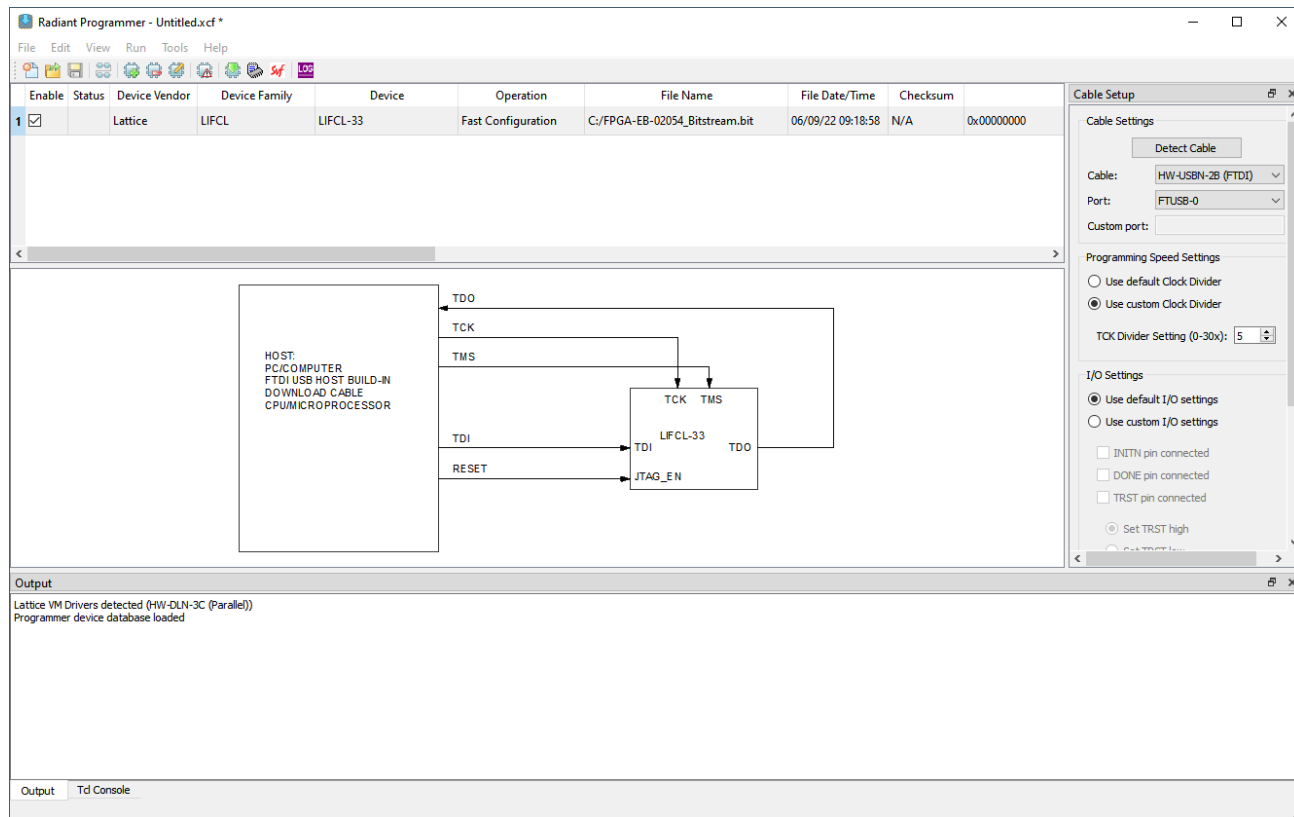

Figure 3.3. Lattice Radiant Programmer – Fast Configuration
- When the board is successfully scanned, the window shown in Figure 3.3 opens. This interface allows the user to enter the file name.